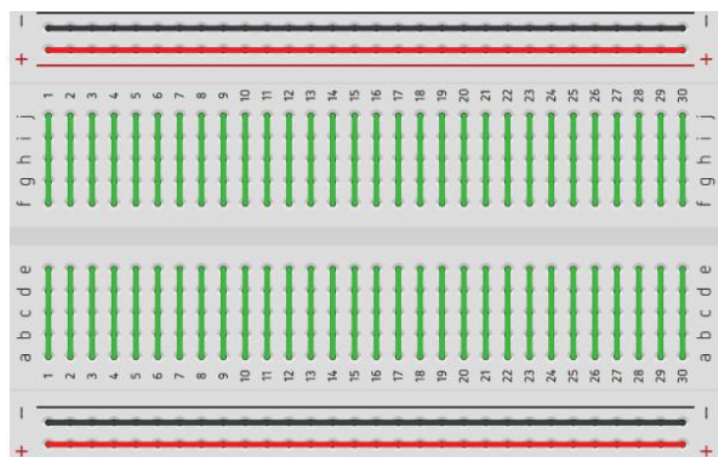

Figure 1.2. Breadboard connection
2. Explain that the holes in a breadboard are connected as shown in figure 1.2.